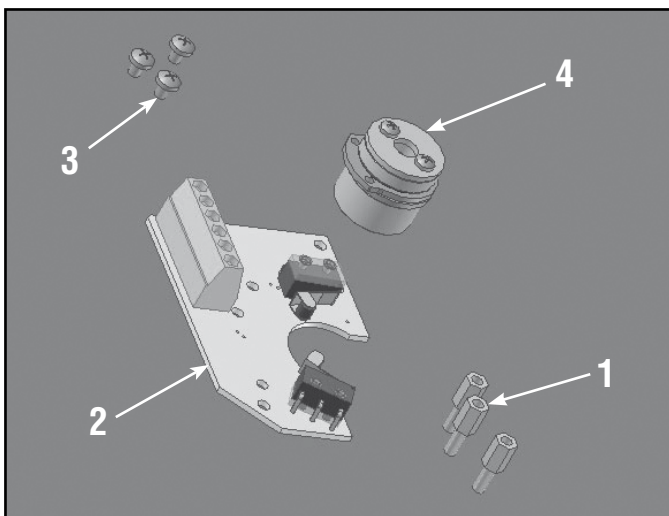

Figure 7: Limit switches
11.3 Installation (Figure 7)
1. Loosen the two screws on the vane (4), figure 7.
6. Tighten the two screws on the vane (4), figure 7.